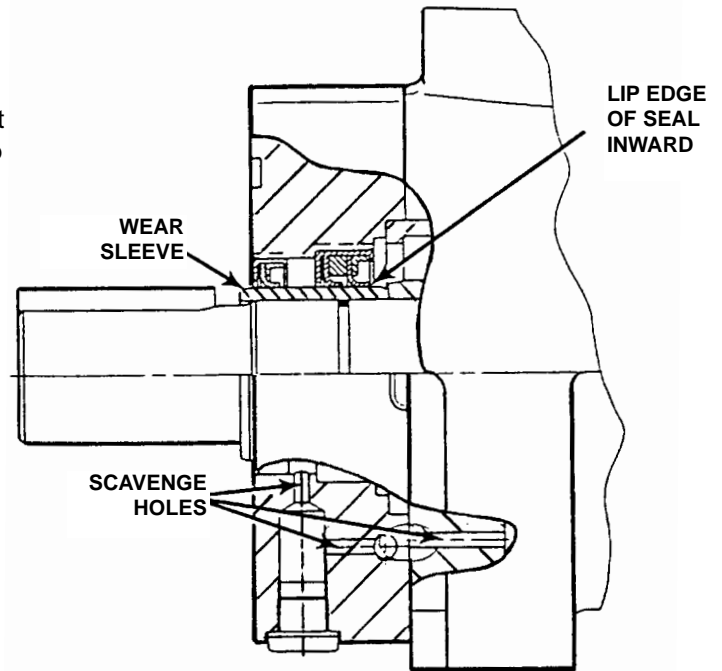

FIGURE 4.8-1 SHAFT SEAL ASSEMBLY
14. Thoroughly clean the scavenge holes, (See Figure 4.8-1), bore surfaces of the seal housing, wear sleeve journal on the shaft, and the face of the airend assembly. Be careful not to damage any of the surfaces, and insure that no particles are allowed to enter the bearings.